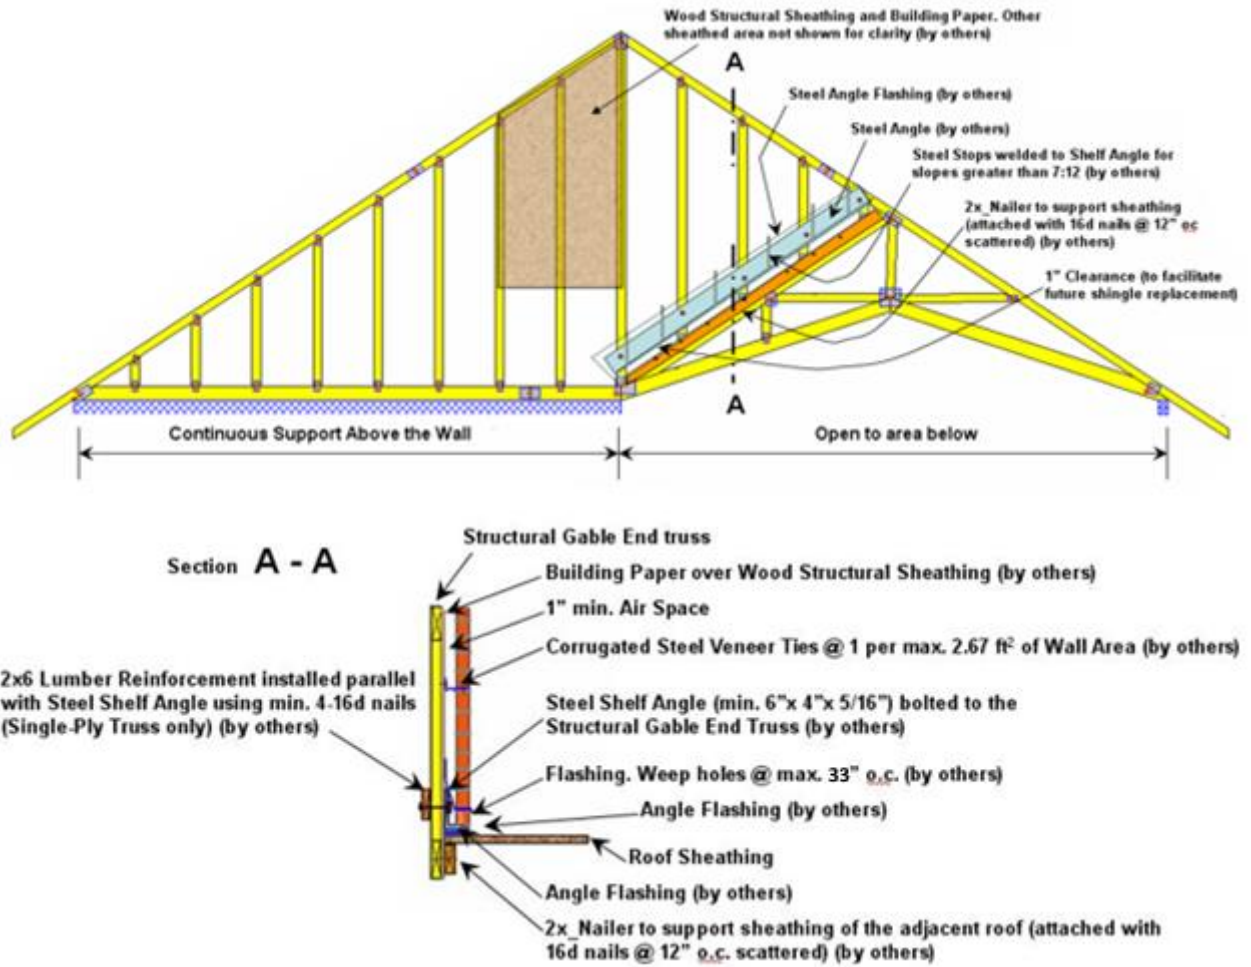

Figure 1. Recommended detail for attaching steel lintel to MPCWT supporting brick masonry veneer
- 2.5.** Attachment of steel lintel to MPCWT should be based on the recommended details per Figure 1. A minimum 6 inches x 4 inches x $\frac{5}{16}$ inch (152 mm x 102 mm x 8 mm) steel angle, with the long leg placed vertically, shall be anchored to MPCWT using bolts installed per recommendations in Table 1.
- 2.6.2.** Veneer ties shall be spaced at maximum 32" o.c. (610 mm) horizontally and 24" o.c. vertically and shall support max 2.67 ft² (0.25 m²) of brick veneer wall area; however, it is suggested that for newer construction wall studs be spaced at 16" o.c., so that ties can be anchored at this spacing (Figure 1).
- 2.7.** Flashing and weep holes shall be located in the brick veneer wythe above the steel angle in accordance with Figure 1. Flashing below the steel lintel should consist of typical step flashing and counter flashing installed directly on the adjacent (i.e., lower) roof sheathing including weep holes at maximum 33" o.c.